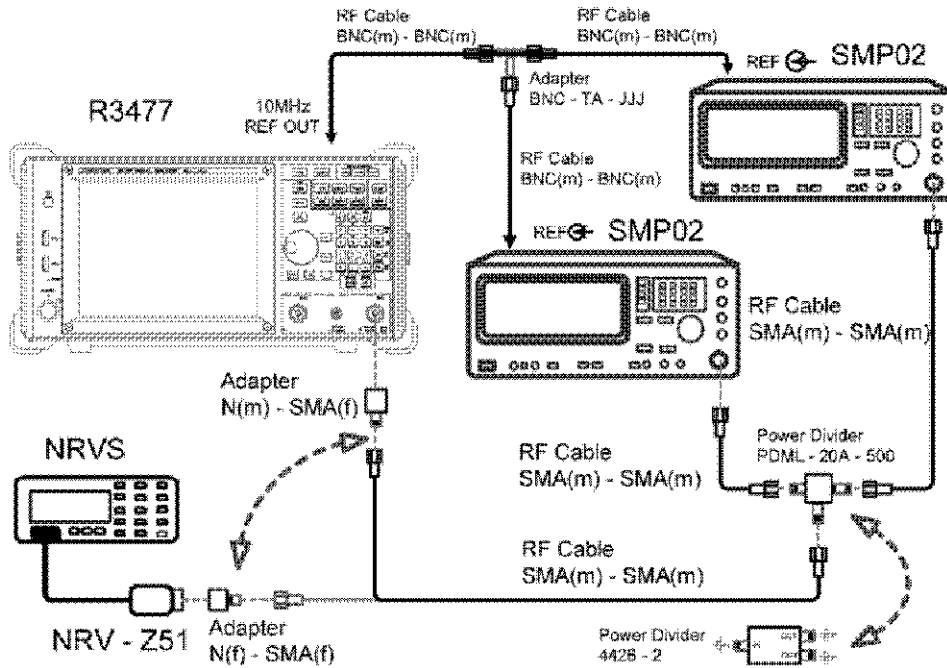

Figure 2-17 Third Order Intermodulation Distortion Test
1. Connect the instruments as shown in Figure 2-17.